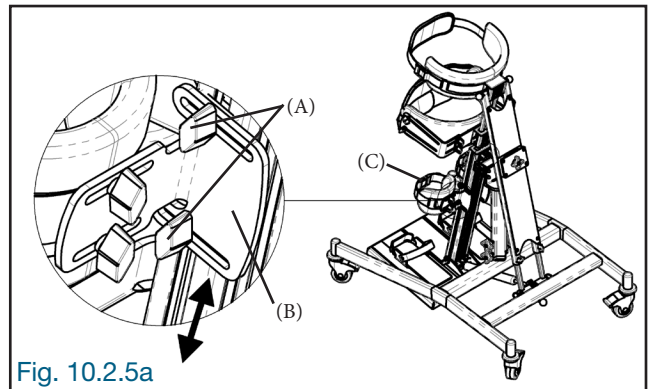

Fig. 10.2.5a
Loosen the locking knobs (A) of the knee stop support (B) and adjust the height of the knee stops (C). Then, tighten the locking knobs (A) firmly (Fig. 10.2.5a).